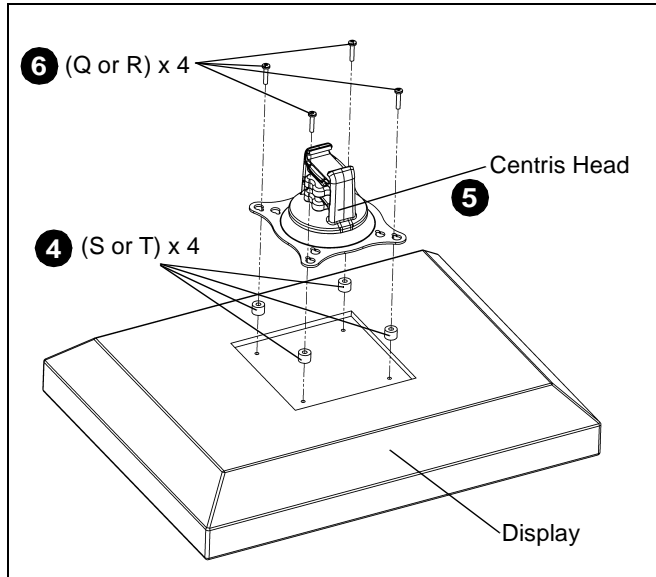

Figure 12
4. Place four 3/8" or 3/4" nylon spacers (S or T) over four mounting holes in display back (See Figure 12).
5. Align Centris head mounting holes with four nylon spacers (See Figure 12).
6. Secure Centris head to display using four M4 x 20mm Phillips pan head screws (Q), or four M4 x 30mm Phillips pan head screws (R). (See Figure 12).